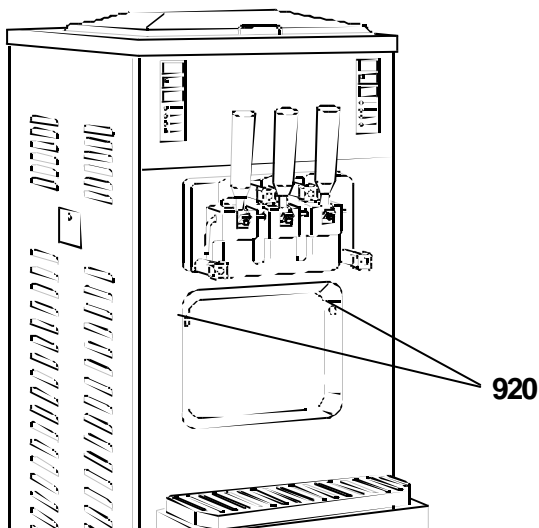

Figure 6
C) Photo Sensor Switches – (Refer to Figure 6)